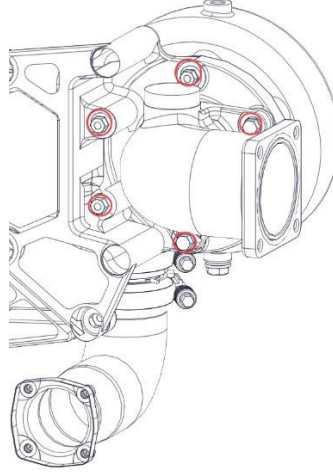

Figure 162-4.
8. Remove the bolts on the water pump mounting bracket (Figure 162-4).